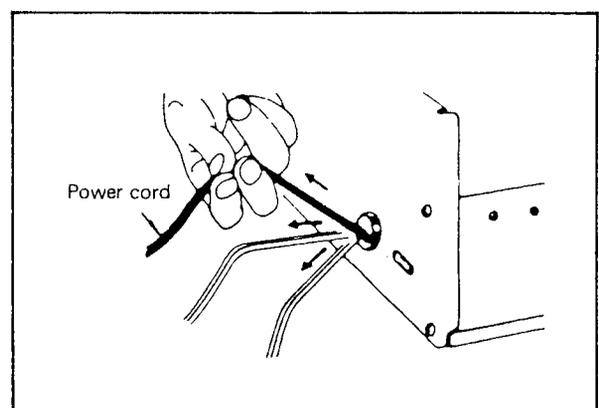

Fig. 2
8. When a power cord has been replaced, check that 10-15kg of force in any direction will not loosen it. (Fig. 2)